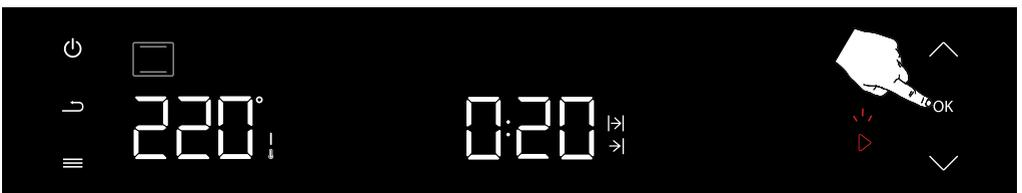

Figure 28
The time at which the cooking will end is confirmed by pressing the approval (OK) key. (see figure 28)